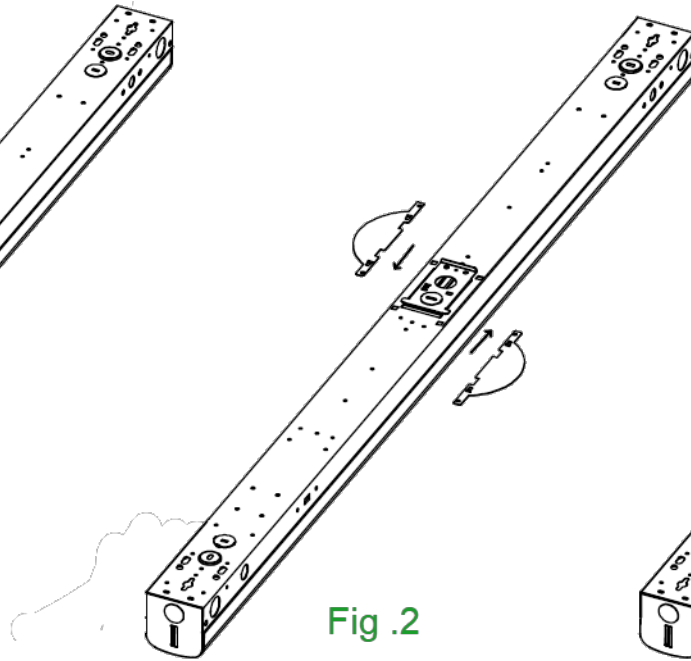

Fig. 2
- Install J-adaptor on each side of the cable hole of fixture (Fig. 2)